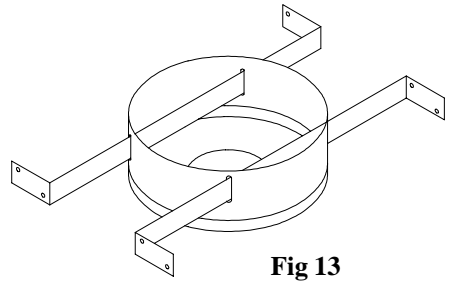

Fig 13
1. Description. The **Bucket Support** (shown in Figure 13) is for properly supporting the B-vent between 16 or 24-inch O.C. joists or rafters, or for providing a transition fitting